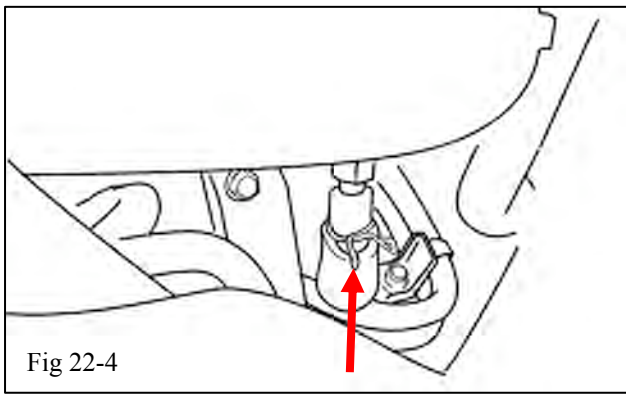

Fig 22-4
- (c) Finally, connect the ventilation hose that was disconnected in step 4 (b) Fig 4-3 to the 3/8" nipple that is on the bottom of housing supercharger housing (Fig 22-4).
- (d) Reconnect the 2 wire harness clamps removed in step 2 (c) (Fig 22-4).